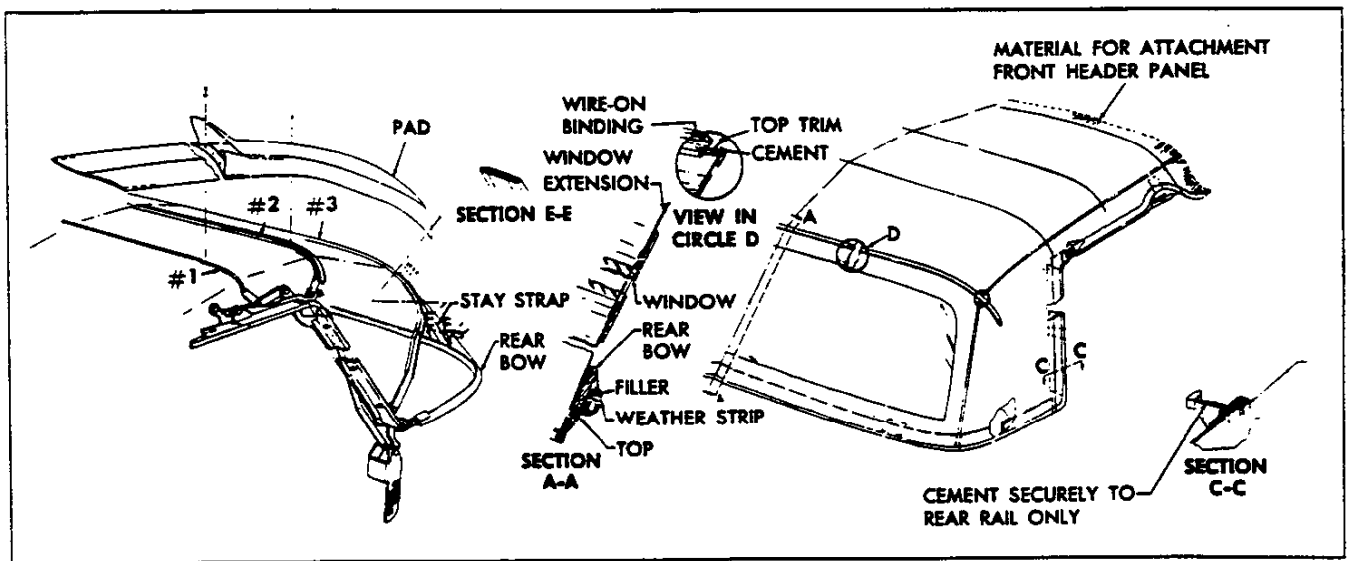
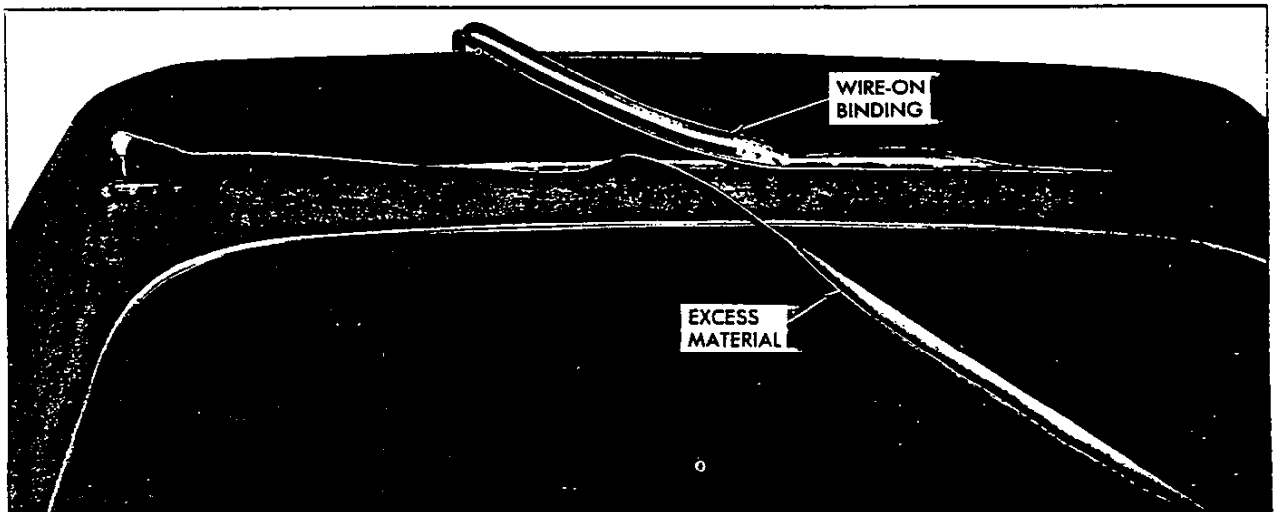
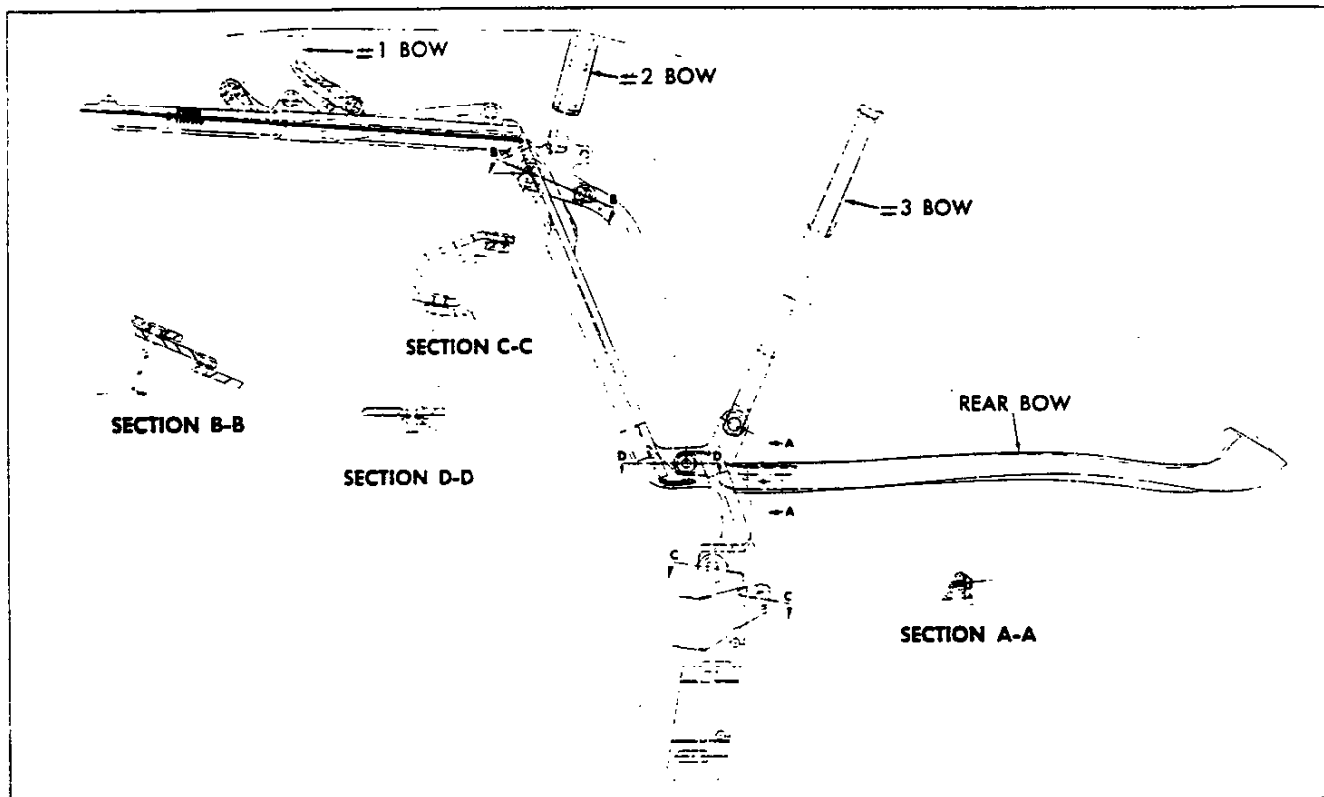

Fig. 69—Folding Top Trim Installation
Fig. 76—Installing Binding
Fig. 77—Top Frame and Linkage
The following information deals with removal and installation of the folding top trim and window assembly complete. Figure 69 may be referred to for parts identifications. Lettered sections (i.e. Section A-A) referred to in the instructions may also be found in Figure 77. Note that the sections are illustrated as they would appear if the parts were cut through on the lettered lines
8. Draw window extension up to #3 bow, aligning centering marks. Turn an ample amount of fabric under and tack to #3 bow. Apply neoprene trim cement, GM Part #3695016 or equivalent, to area shown in View D of Figure 69. Follow directions on package.
10. Trim off excess material and install wire-on binding as shown in Figure 76 and View D of Figure 69. Install binding caps.
Figure 77 illustrates construction features of the folding top frame and linkage. Various cross sections in Figure 77 show the pivoting joints and their assembly.
CENTER ROOF REINFORCEMENT TRIM REMOVAL (Fig. 77)